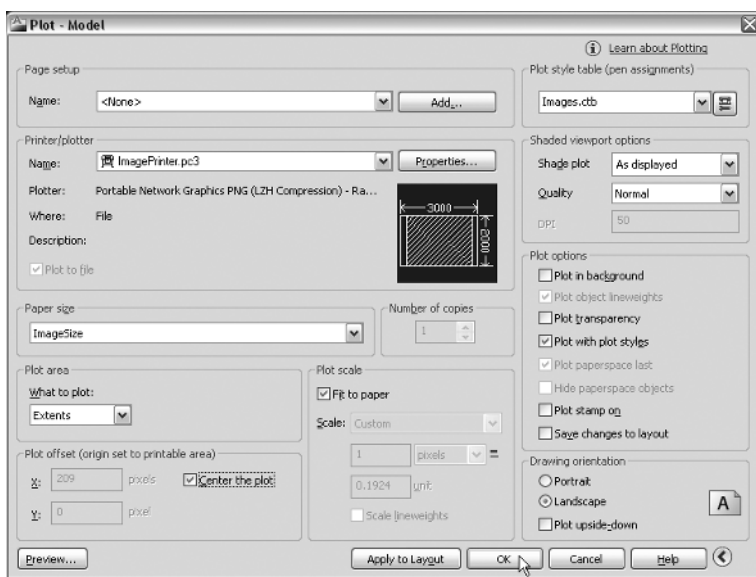

Figure 1.15 Selecting plotter, paper size, and plot style table
6. Open the Plot Style Table drop-down and select `Images.ctb` (Figure 1.15).